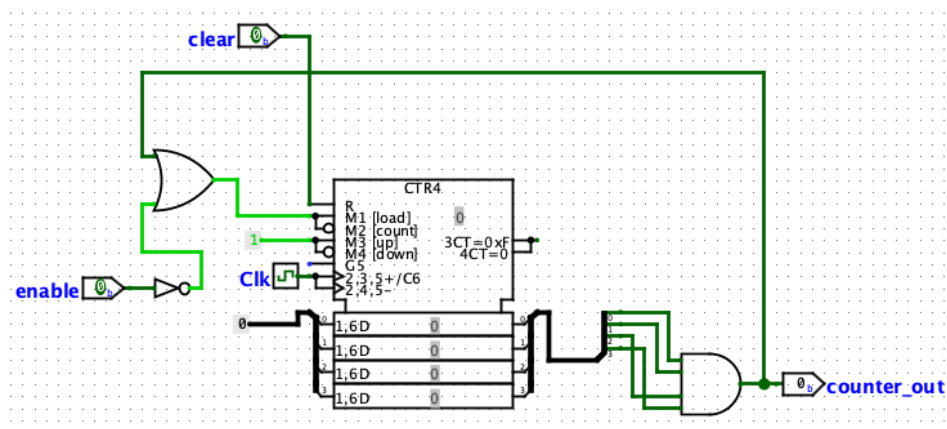

Figure 2: Counter in Logisim
Figure 2 shows an example of a counter in Logisim that counts in hexadecimal from 0 to F . You can find this counter in *Memory > Counter*.
1. The AND gate on the right side of Figure 2 performs two tasks: it turns on the output *Enable* signal once the counter reaches a certain value and it performs a parallel load of a new counter value (specified by you) on the next clock cycle. This is one way to make the *RateDivider* counts a certain number of clock cycles before turning on the enable signal (but not the only one). Using this idea, changing the frequency of the new clock signal would just involve changing the value you load into the counter.
- This counter design in Figure 2 is provided for you and you can use it as a model to build your RateDivider counter (your DisplayCounter will be more straightforward).